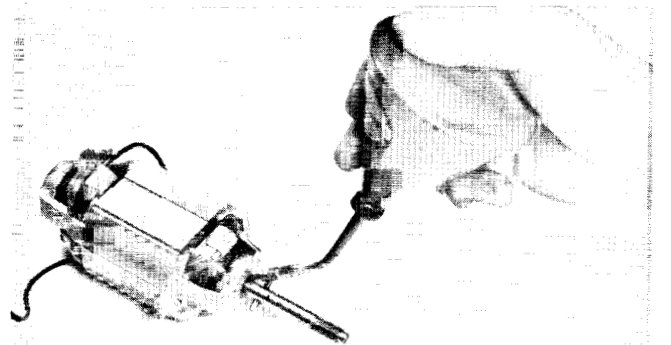

Figure 2.23
2.23 BAD BEARING — REPLACE MOTOR OR TRIMMER (fig. 2.23)